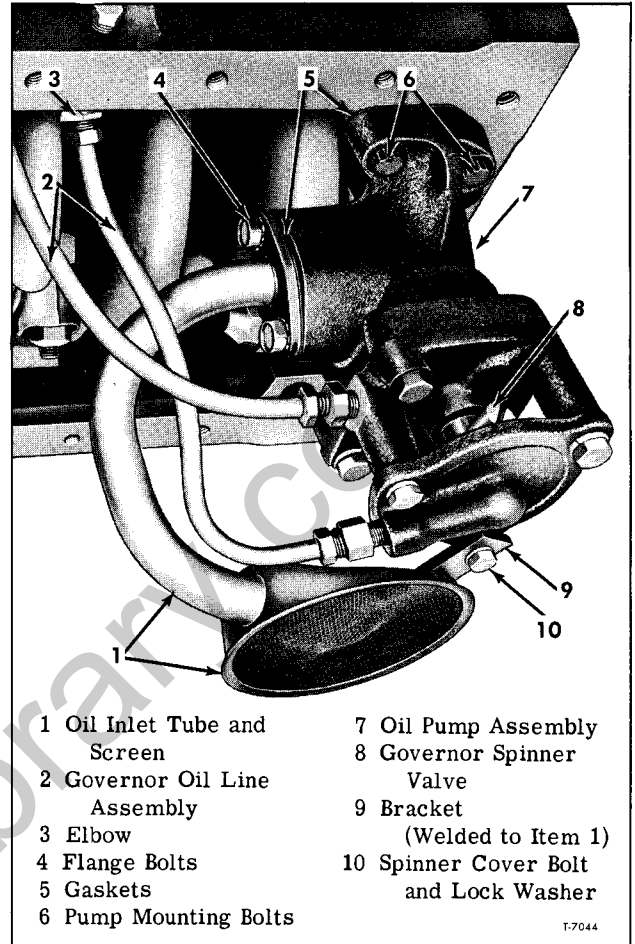

Figure 17—Engine Oil Pump and Governor Spinner Valve Assembly Installed (V6 Engine)
(Refer to Figure 17)
pump body. Install all attaching bolts loosely, then tighten bracket bolt first. Correct torque is 20 to 25 foot-pounds. Finally, tighten tube flange bolts. Figure 17 shows engine oil pump without hydraulic governor spinner valve.
3. Position the hydraulic governor line (2, fig. 17) at fittings on cylinder block and oil pump and start oil line nuts.